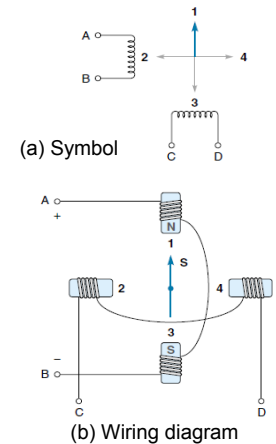

Figure 3.11 Two-phase (bipolar) stepper motor.
- In Figure 3.11(b), circuit AB consists of **two opposing poles** such that when voltage is applied (+A -B), the top pole will present a north end to the rotor and the bottom pole will present a south end. The rotor would tend to align itself vertically (position 1) with its south pole up (because, opposite magnetic poles attract).